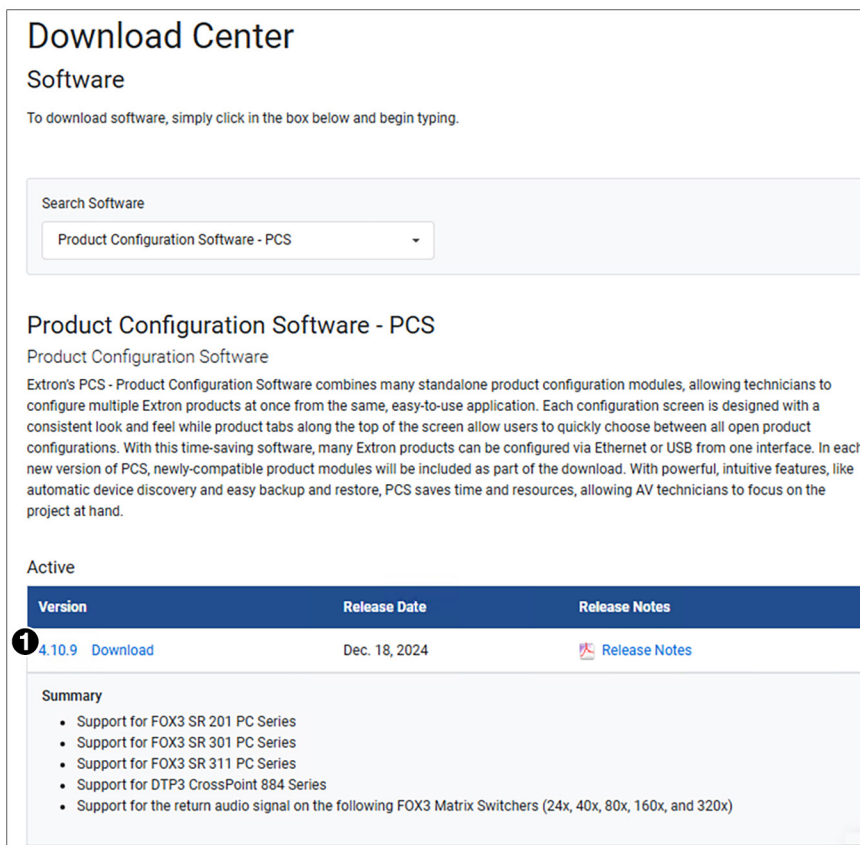

Figure 18. PCS Download Center Screen
- From the drop-down list, select Product Configuration Software - PCS (❷).
- On the Product Configuration Software - PCS Download Center screen, click the link to the active PCS version (see figure 18, ❶). After a few seconds, a link to the VCS installer on your PC appears.